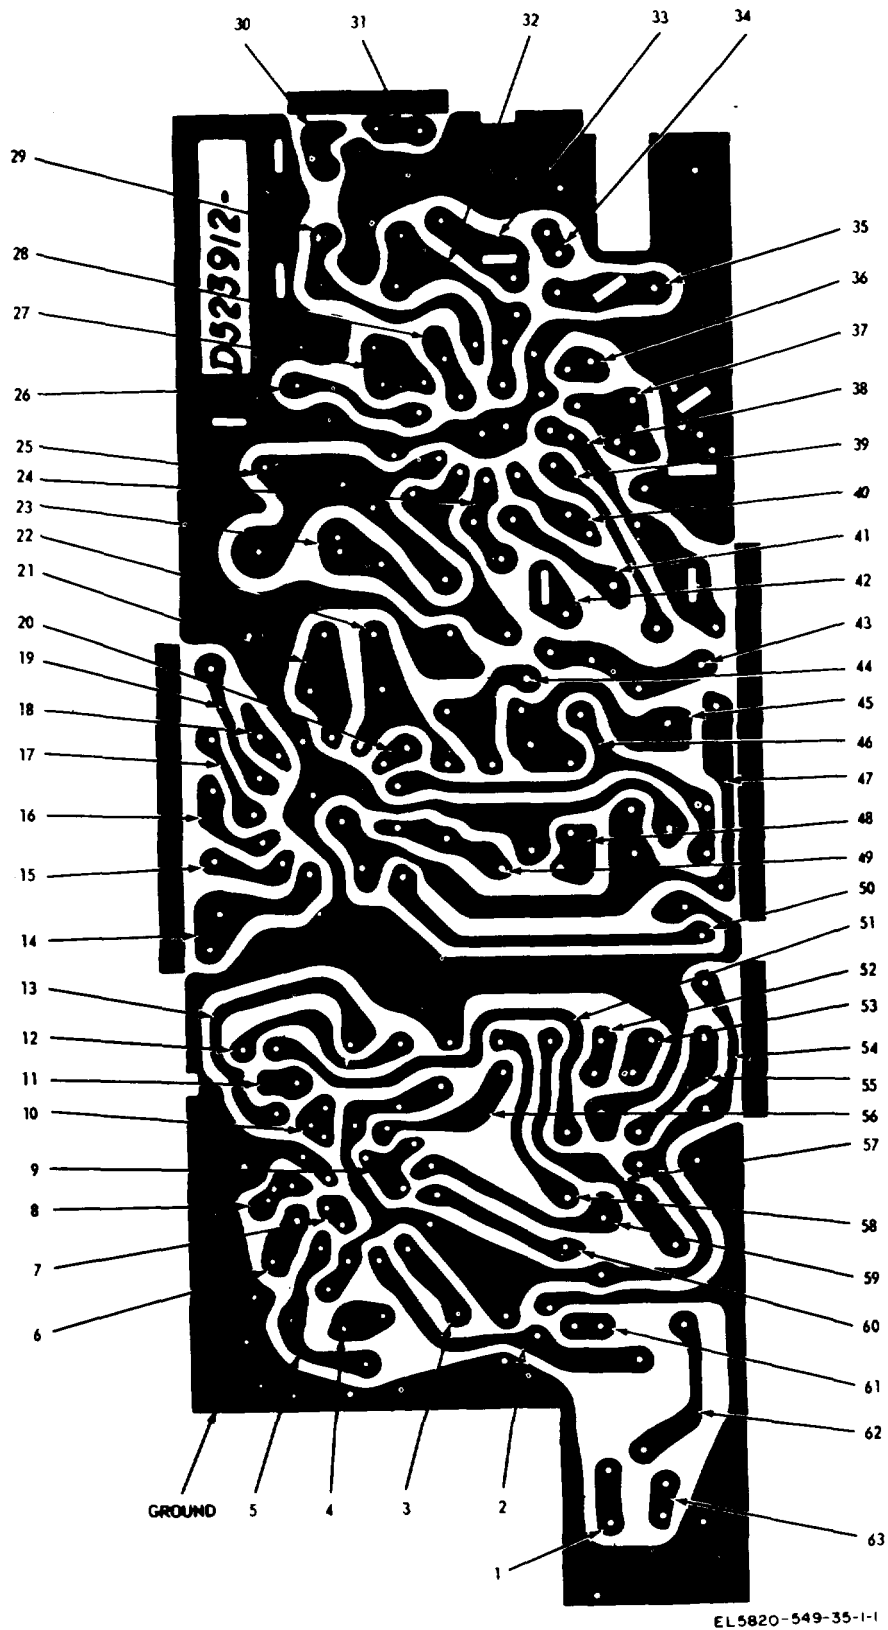

Figure 2-1. AN/PRR-9(XE-9) printed circuit board, voltage and resistance pad locations.
| Symbol | Pin number | Circuit board pad number (fig. 2-1) | Signal or function |
a. *General.* All measurements are made with the electronic unit assembly removed from the case (TM 11-5820-549-12-1). Voltage and resistance measurements are given for all significant circuit points. Identification of integrated circuit elements is given in the schematic diagram, figure 4-10 and in the table in paragraph 1-16. For identification of printed circuit board pads refer to figure 2-1.
d. Voltage and Resistance Measurements (fig. 2-1).
| Pad no. (fig. 2-1) | Circuit point | Typical resistance ohms (OHMS -DC±AC on TS-352B/U connected to circuit board ground) | DC Voltage ±10% (3.2 VDC Input to AN/PRR9(XE-9) Battery -Connector) |
| Pad no. (fig. 2-1) | Circuit point | Typical resistance ohms (OHMS -DC±AC on TS-82B/U connected to circuit board ground) | DC Voltage ±10% (3.2 VDC Input to AN/PRR9(XE-9) Battery -Connector) |